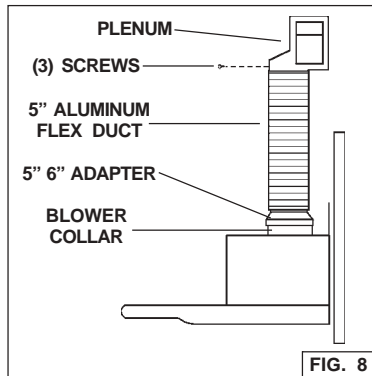

FIG. 8
2. Discard discharge collar and damper supplied with the hood. Install the 5" to 6" adapter supplied with the Non-Ducted Recirculation Kit. Fig. 8
3. Attach aluminum flexible duct to the 5" adapter. Tape all joints with duct tape. Fig. 8
4. Assemble the recirculation plenum to the flexible duct. Fig. 8
5. Drill three (3) 1/16" diameter equally spaced holes through the duct and duct connector of the recirculation plenum. Fig. 8
6. Secure duct to the plenum's connector with (3) sheet metal screws. Tape all joints with duct tape. Fig. 8